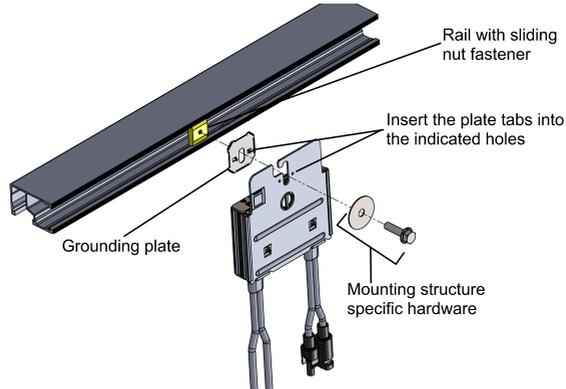

Figure 4: Power Optimizer installation and grounding using a grounding plate
- For mounting on rails with sliding nut fasteners:** If the star washer cannot be used, use the SolarEdge grounding plate (purchased separately) between the railing and the flat side of the mounting bracket. Use mounting specific hardware as needed. Apply a torque of 9.5 N\*m / 7 lb\*ft. See *Figure 4*.